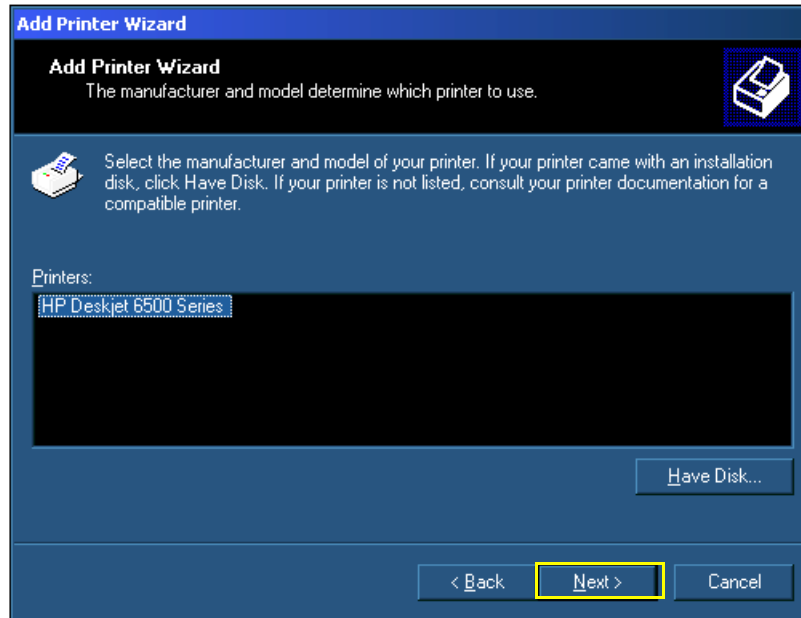

Figure 8-185 Printer Manufacturer and Model
14.) From the list of Printers, highlight the **HP Deskjet 6500 Series** - see Figure 8-185.